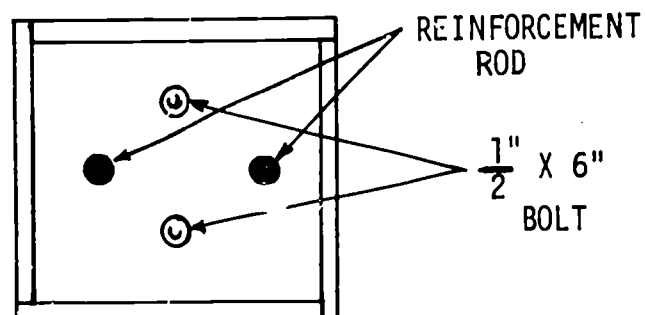

Fig. 73-3. Anchor Bolt Placement
19. Place the anchor bolts at right angles to the reinforcement rod. See Fig. 73-3. Nail the spacer block in place with 2 nails. Leave the nail heads above the block for easy removal.